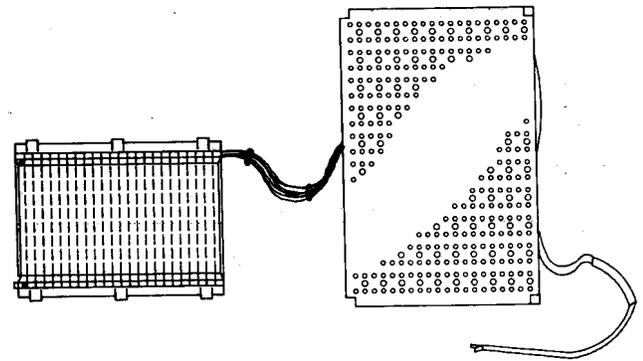

Fig. 25—307A1-100, B1-100, D1-100, or E1-100 Connector
**2.17 307A1-100, B1-100, D1-100 and E1-100:** The 307-type connectors (Fig. 25) are 100-pair connectors (protector panel) that interconnect to a connecting block.